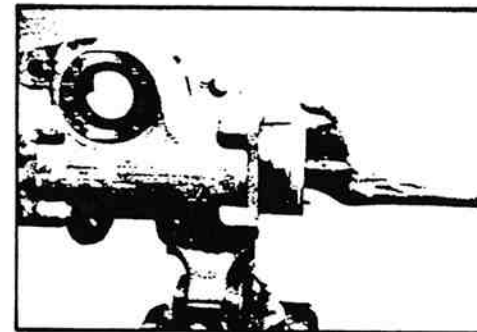

Figure 11-69. Piston and Shaft Assembly Installation.
13. Install the rack piston (10) worm shaft (5a) assembly into the long end of the housing (1) so that the Teflon rack piston seal goes in last (figure 11-69).